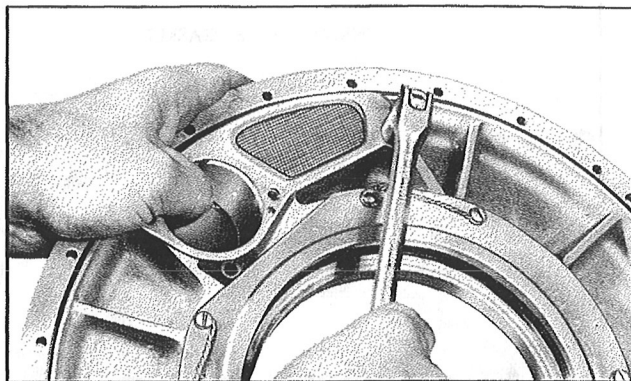

Figure 152—Installation of Oil Pump Screen
*Step 14.*—On Model A632S-C1 only, place the oil pump screen into position over the pump well in the regulator housing. Install the combination balance screw and attaching screw loosely. See Figure 152.